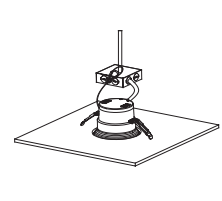

Fig. 10
- Step 5:** Once lamp is inside the opening, release the housing clips and continue pushing lamp into opening until securely fixed and flush with ceiling (Fig. 10).